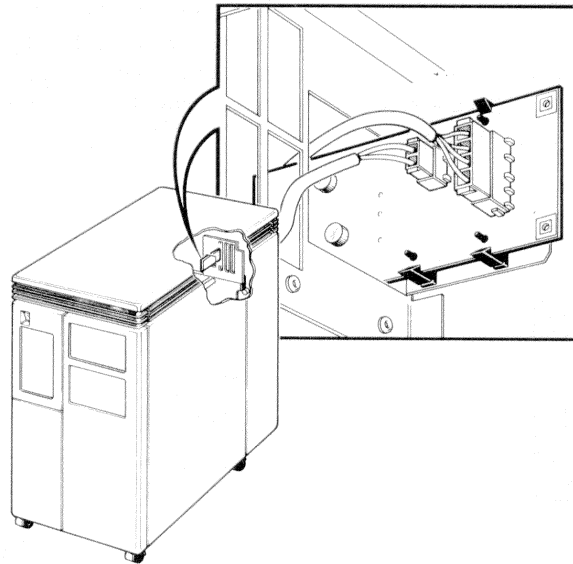

Figure 1-5 Temperature Sensors
1.3.1.2 Temperature Sensor Printed Circuit Board – A printed circuit (PC) board above the card cage contains two temperature sensors. (Figure 1-5) One sensor regulates the speed of the card cage fan at the minimum level required to maintain a constant temperature within the card cage. The other sensor, the over-temperature sensor, shuts down the system at high temperature. The card cage door encloses the area surrounding the modules. If this door is removed, an interlock switch is triggered, and the speed of the card cage fan is increased to maximum. If the proper temperature within the card cage cannot be maintained even at maximum fan speed, the over-temperature sensor will cause the system to shut down. The system also shuts down if the card cage fan fails.